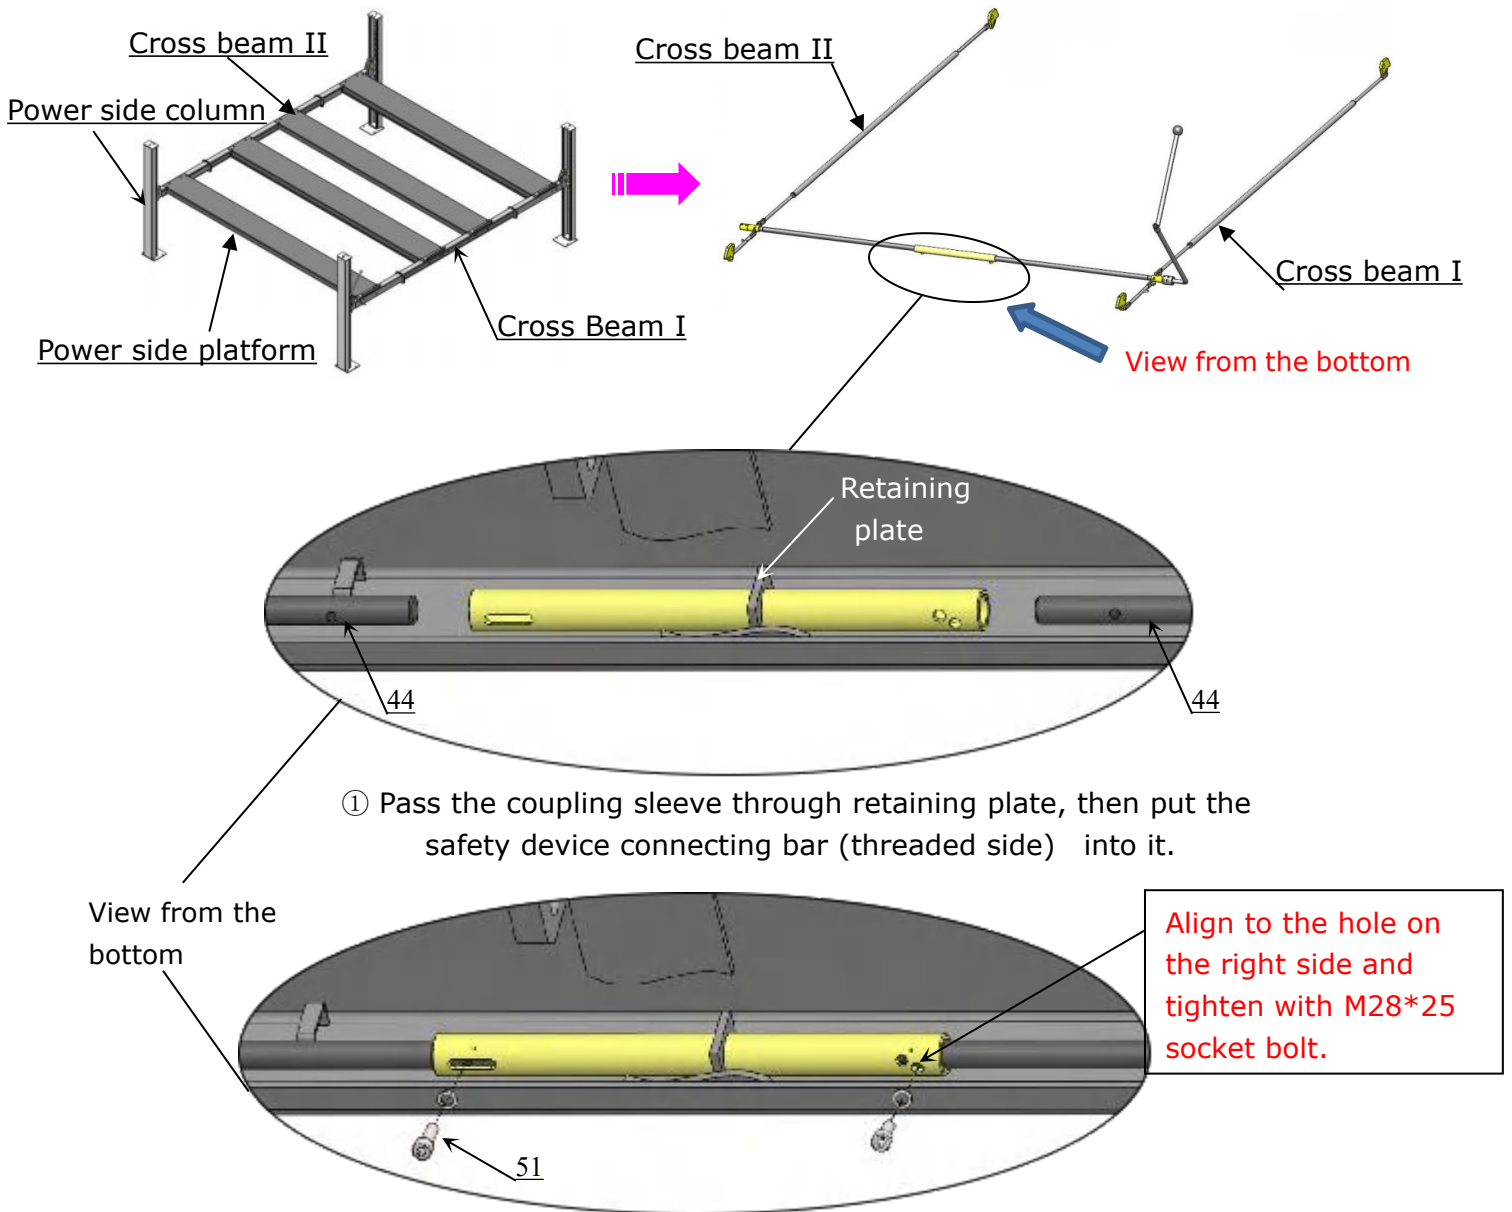

Fig. 33 ② Align the holes that connecting the connecting bar and coupling sleeve as show above, tighten with M28*25 socket bolt with lock washer.
2.2, Coupling sleeve installation illustration when power side column is in the position as shown below. See fig 33.